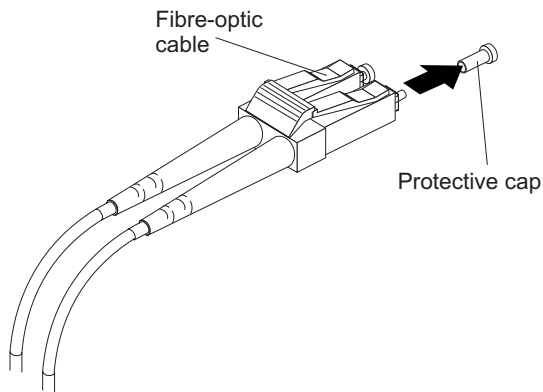

Figure 33. Removing fibre-optic cable protective caps
3. Remove the two protective caps from one end of the LC-LC cable, as shown in Figure 33 on page 55. Save the protective caps for future use.